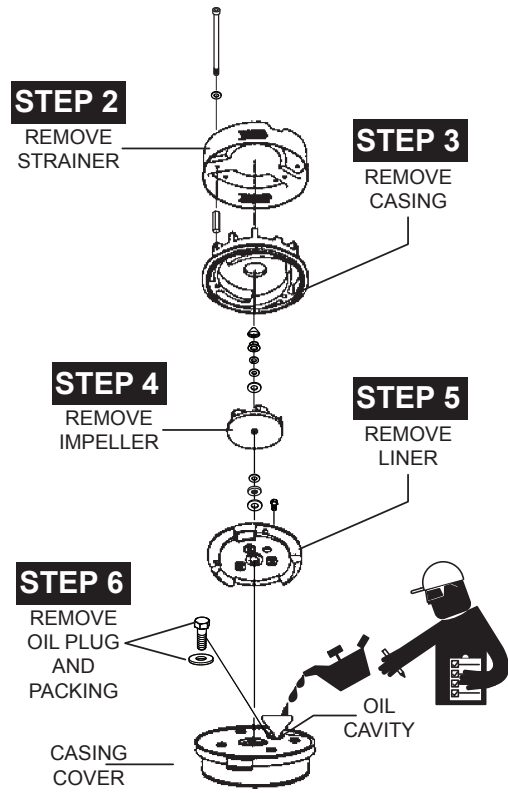

Figure 8. Checking Hydraulic Oil
1. Check pump oil at oil cavity plug (Figure 8). Check every 300 hours and change hydraulic oil every 6 months (1,000 hours) or as needed.